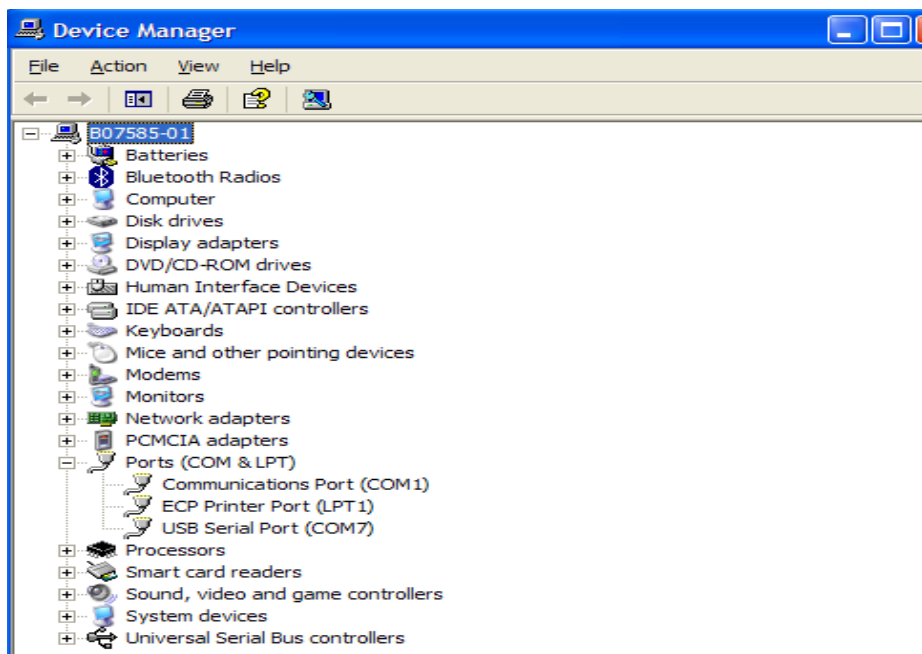

Figure 1-16. COM Port Determination in Device Manager
- b) Select the Hardware tab, and click the Device Manager button. The Device Manager window appears as shown in Figure 1-16.
- d) As shown in Figure 1-16, the COM Port chosen by the system is titled USB Serial Port (COM7).
- d) Open the Windows System Properties window using Start->Settings->Control Panel->System. Select the Hardware tab, and click the Device Manager button. The Device Manager window appears as shown in Figure 1-16.